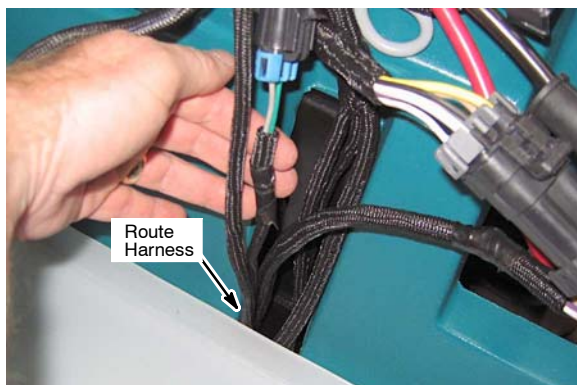

Fig. 13
11. Route the above *ec-H2O* harness wires to the scrub head assembly as shown (Figure 13).